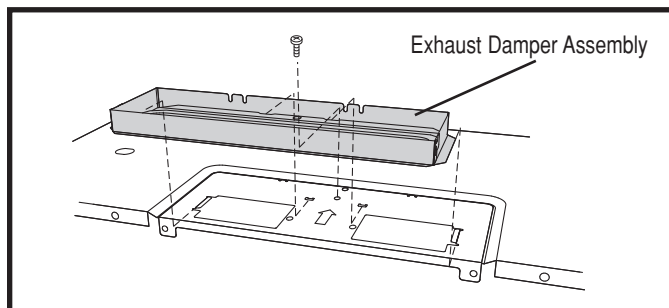

Figure 15
6. Attach the Exhaust Damper Assembly 9 to the fan cover on the top of the outercase cabinet by sliding it into the slits in the same direction as the arrow. Use 1 Tapping Screw 4 X12 mm 5 from the INSTALLATION HARDWARE and tighten into place. See Figure 15.